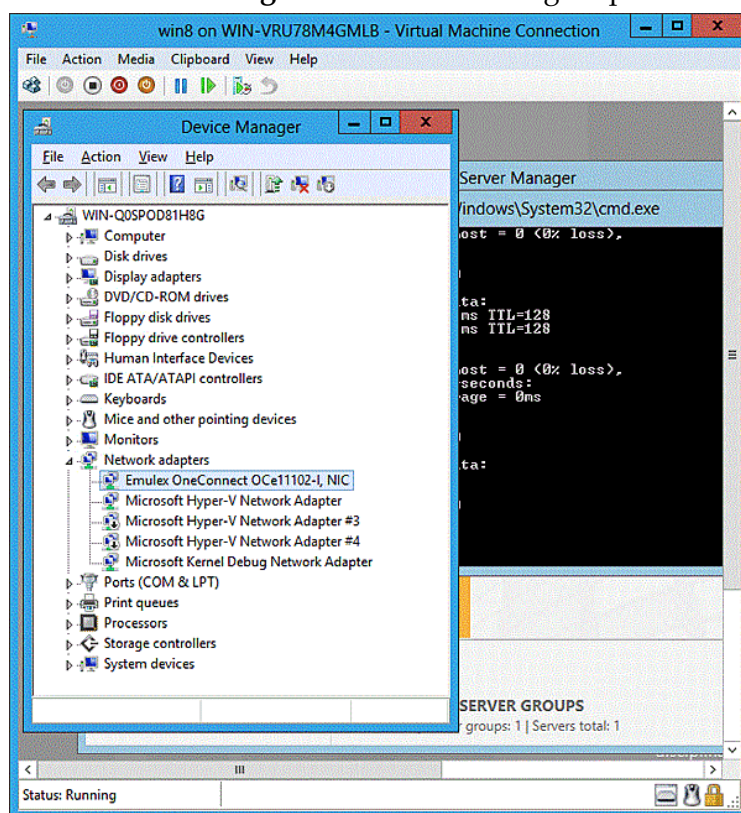

Figure 3-4 Device Manager for Windows Server 2012
2. Click **Device Manager**. The Device Manager opens. See Figure 3-4 on page 78.
2. Click **Device Manager**. The Device Driver opens. See Figure 3-4 on page 78.